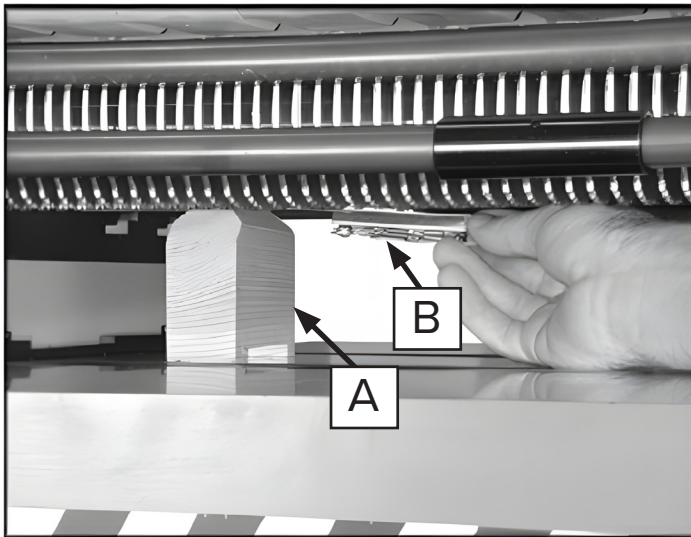

Figure 13: Anti-Kickback fingers set up
2. Place a hardwood gauge (A, Figure 13) under a knife in the cutterhead.
3. Place a 0.02" feeler gauge (B, Figure 13) on top of the wood block and raise the table until the feeler gauge contacts the knife at its lowest position.
3. Place a 0.02" feeler gauge (B, Figure 13) on top of the wood block and raise the table until the gauge contacts the knife at its lowest position.